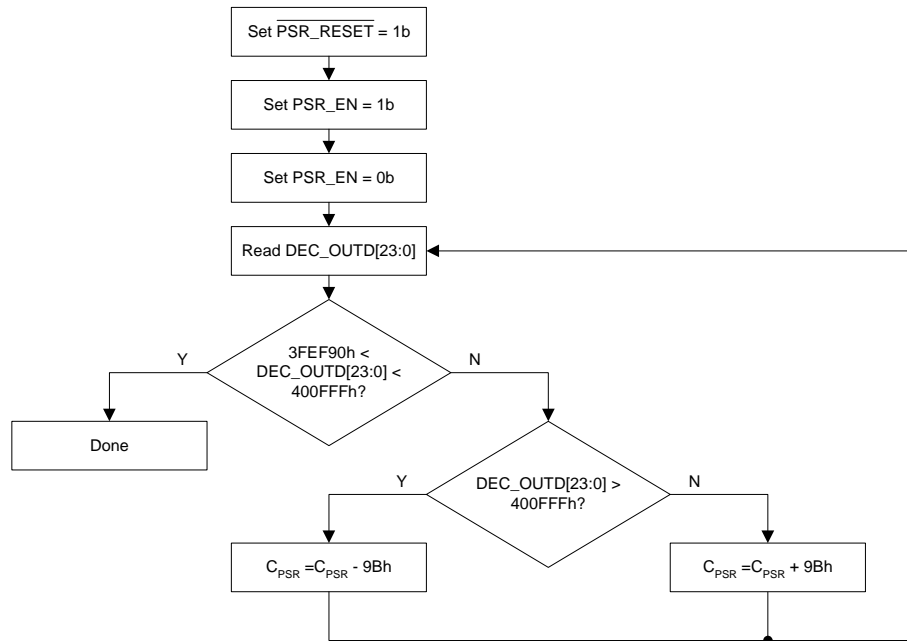

Figure 30. PSR Calibration Sequence
6. See Figure 30 to adjust the DEC\_SHIFT[2:0]/DEC\_SCALE[18:0] registers.